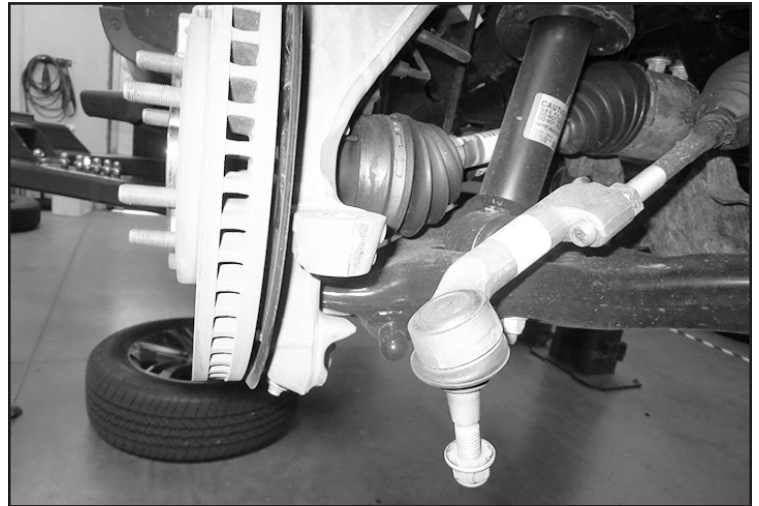

FIGURE 3 - STEP 3
3. Loosen the tie rod nut and carefully strike the knuckle with a hammer until it comes loose from the knuckle. Save hardware. **SEE FIGURE 3**